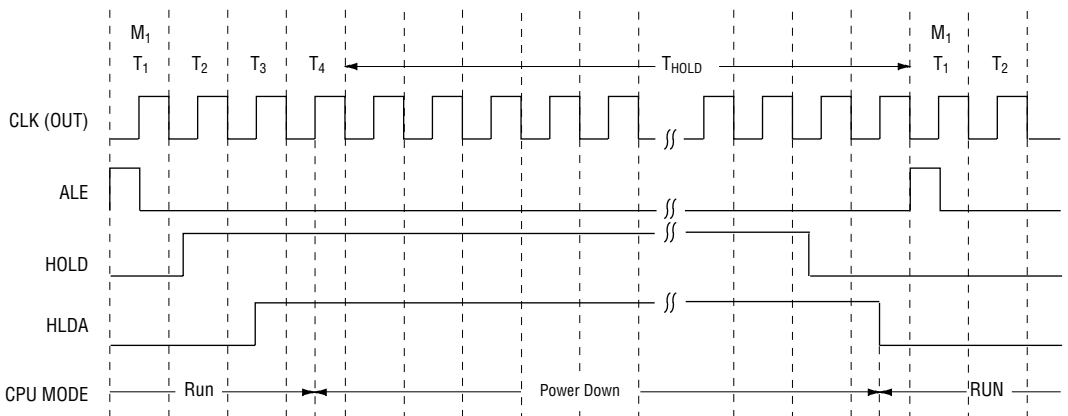

Figure 8 Started and Released by HOLD
### (2) Start by means of HOLD pin (See Figure 8.)